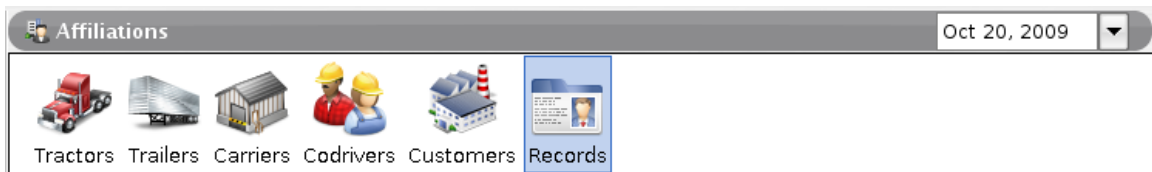

Figure 5.14. Records Navigation Item
2. Select the "Records" affiliations navigation item see Figure 5.14, "Records Navigation Item".